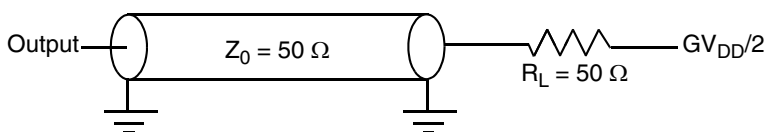
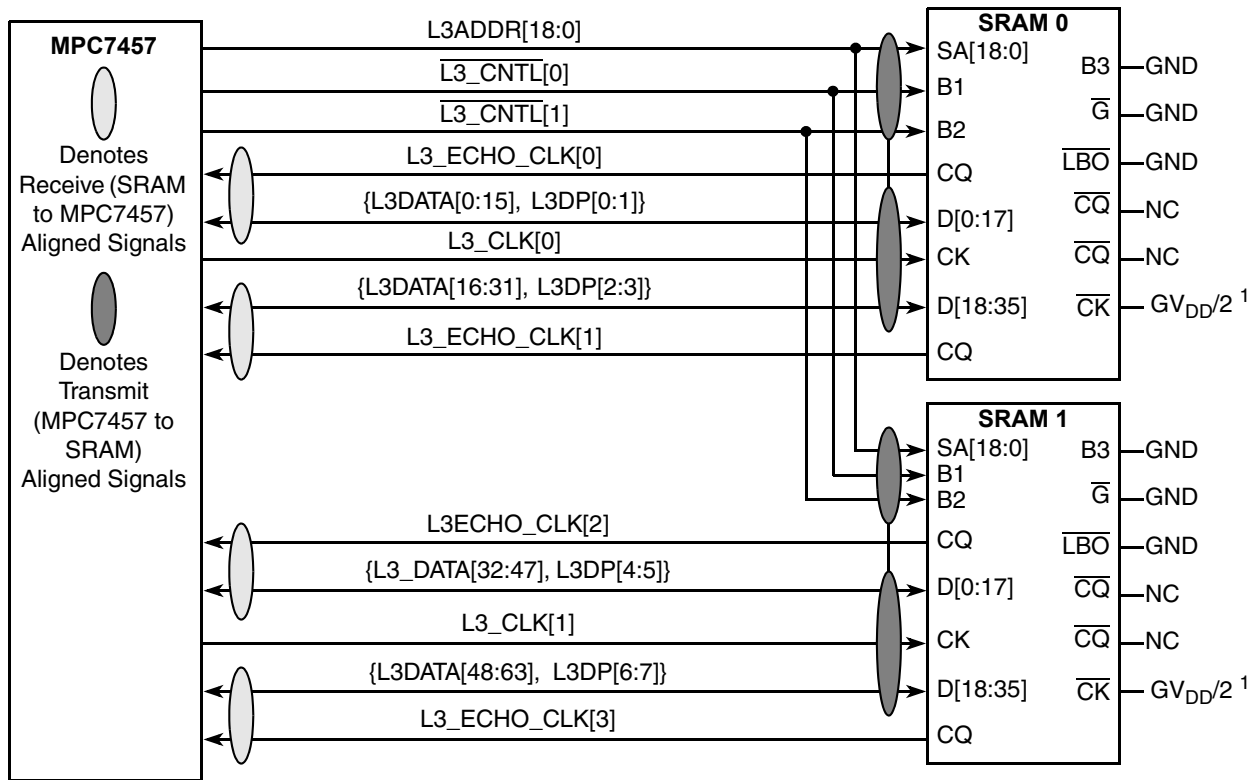
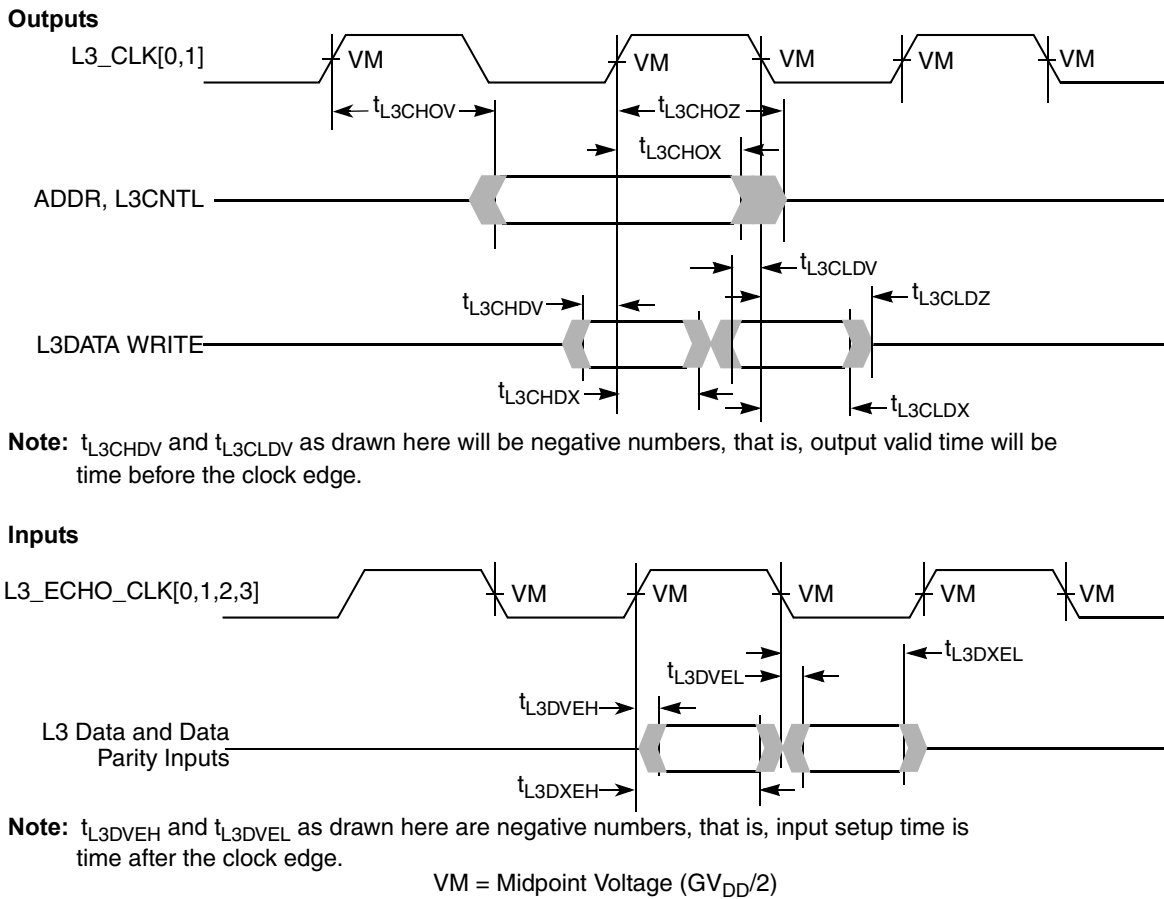
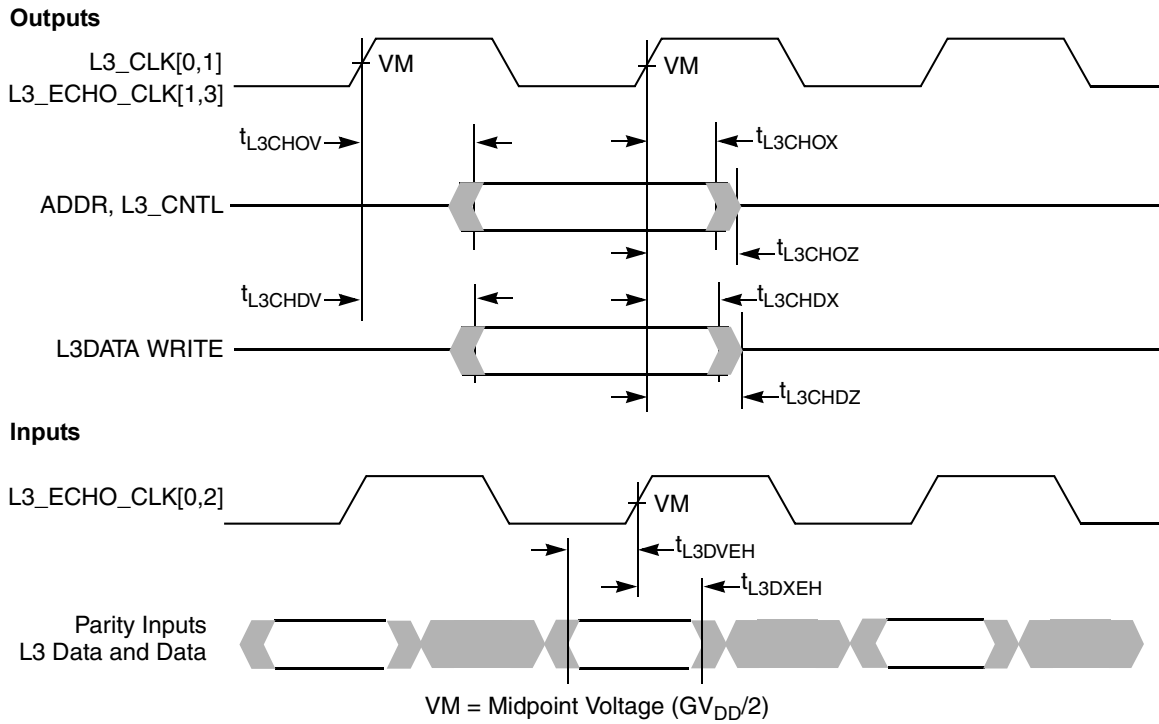

Figure 8. AC Test Load for the L3 Interface
Figure 9. Typical Source Synchronous 4-Mbyte L3 Cache DDR Interface
Figure 10. L3 Bus Timing Diagrams for L3 Cache DDR SRAMs
Figure 12. L3 Bus Timing Diagrams for Late Write or PB2 SRAMs
- For high-speed operations, L3 interface address and control signals should be a ‘T’ with minimal stubs to the two loads; data and clock signals should be point-to-point to their single load. Figure 8 shows the AC test load for the L3 interface.
More specifically, certain signals within groups should be delay-matched with others in the same group while intergroup routing is less critical. Only the address and control signals are common to both SRAMs and additional timing margin is available for these signals. The double-clocked data signals are grouped with individual clocks as shown in Figure 9 or Figure 11, depending on the type of SRAM. For example, for the MSUG2 DDR SRAM (see Figure 9); L3DATA[0:31], L3DP[0:3], and L3_CLK[0] form a closely coupled group of outputs from the MPC7457; while L3DATA[0:15], L3DP[0:1], and L3_ECHO_CLK[0] form a closely coupled group of inputs.
5. Increasing values of L3CLKn_OH delay the L3_CLKn signal, effectively decreasing the output valid and output hold times of all signals latched relative to that clock signal by the SRAM; see Figure 9 and Figure 11.
When using DDR MSUG2 SRAMs at the L3 interface, the parts should be connected as shown in Figure 9. Outputs from the MPC7457 are actually launched on the edges of an internal clock phase-aligned to SYSCLK (adjusted for core and L3 frequency divisors). L3_CLK0 and L3_CLK1 are this internal clock output with 90° phase delay, so outputs are shown synchronous to L3_CLK0 and L3_CLK1. Output valid times are typically negative when referenced to L3_CLKn because the data is launched one-quarter period before L3_CLKn to provide adequate setup time at the SRAM after the delay-matched address, control, data, and L3_CLKn signals have propagated across the printed-wiring board.
Table 13 provides the L3 bus interface AC timing specifications for the configuration as shown in Figure 9, assuming the timing relationships shown in Figure 10 and the loading shown in Figure 8.
2. For DDR, all input specifications are measured from the midpoint of the signal in question to the midpoint voltage of the rising or falling edge of the input L3_ECHO_CLK n (see Figure 10). Input timings are measured at the pins.
3. For DDR, the input data will typically follow the edge of L3_ECHO_CLK n as shown in Figure 10. For consistency with other input setup time specifications, this will be treated as negative input setup time.
5. All output specifications are measured from the midpoint voltage of the rising (or for DDR write data, also the falling) edge of L3_CLK to the midpoint of the signal in question. The output timings are measured at the pins. All output timings assume a purely resistive 50- Ω load (see Figure 8).
6. For DDR, the output data will typically lead the edge of L3_CLK n as shown in Figure 10. For consistency with other output valid time specifications, this will be treated as negative output valid time.
Figure 9 shows the typical connection diagram for the MPC7457 interfaced to MSUG2 DDR SRAMs.
Figure 10 shows the L3 bus timing diagrams for the MPC7457 interfaced to MSUG2 SRAMs.
Table 14 provides the L3 bus interface AC timing specifications for the configuration shown in Figure 11, assuming the timing relationships of Figure 12 and the loading of Figure 8.
3. All input specifications are measured from the midpoint of the signal in question to the midpoint voltage of the rising edge of the input L3_ECHO_CLK n (see Figure 10). Input timings are measured at the pins.
4. All output specifications are measured from the midpoint voltage of the rising edge of L3_CLK n to the midpoint of the signal in question. The output timings are measured at the pins. All output timings assume a purely resistive 50- Ω load (see Figure 10).
Figure 12 shows the L3 bus timing diagrams for the MPC7457 interfaced to PB2 or Late Write SRAMs.